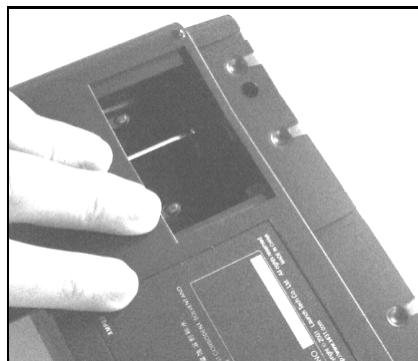

Figure 03a
MINIPRINTER uses heat sensitive paper with size of 30 × 57mm (internal hole 7mm). Refer to Figure 03a to Figure 03d for mounting the paper.
1. Open the paper lid on the back of the printer. See Figure 03a.